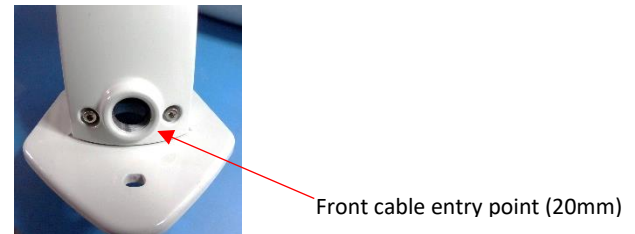

Fig 2
- Two cable entry points are provided (fig 2); at the rear of the baseplate (25mm $\varnothing$ hole), for cables passed through the wall, and at the front; located at the bottom of the wall arm cover (20mm threaded for conduit). A screw cap is supplied for this access point, in the event it is not used.